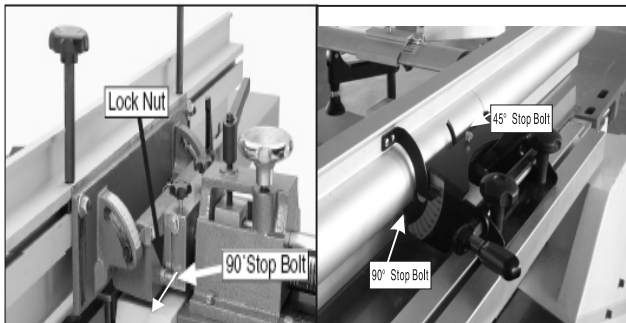

Figure 49. Adjusting fence to 90°
1. Loosen the lock nut on the 90° fence stop bolt shown in **Figure 49**, and loosen the fence tilt lock.